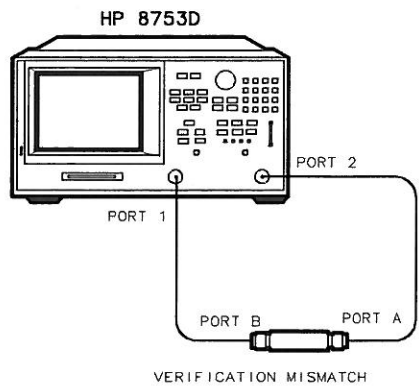

Figure 1-7. Mismatch Device Verification Setup
41. When the analyzer finishes all the measurements, connect the mismatch verification device, as shown in Figure 1-7. Notice that Port B is now connected to reference test port 1.